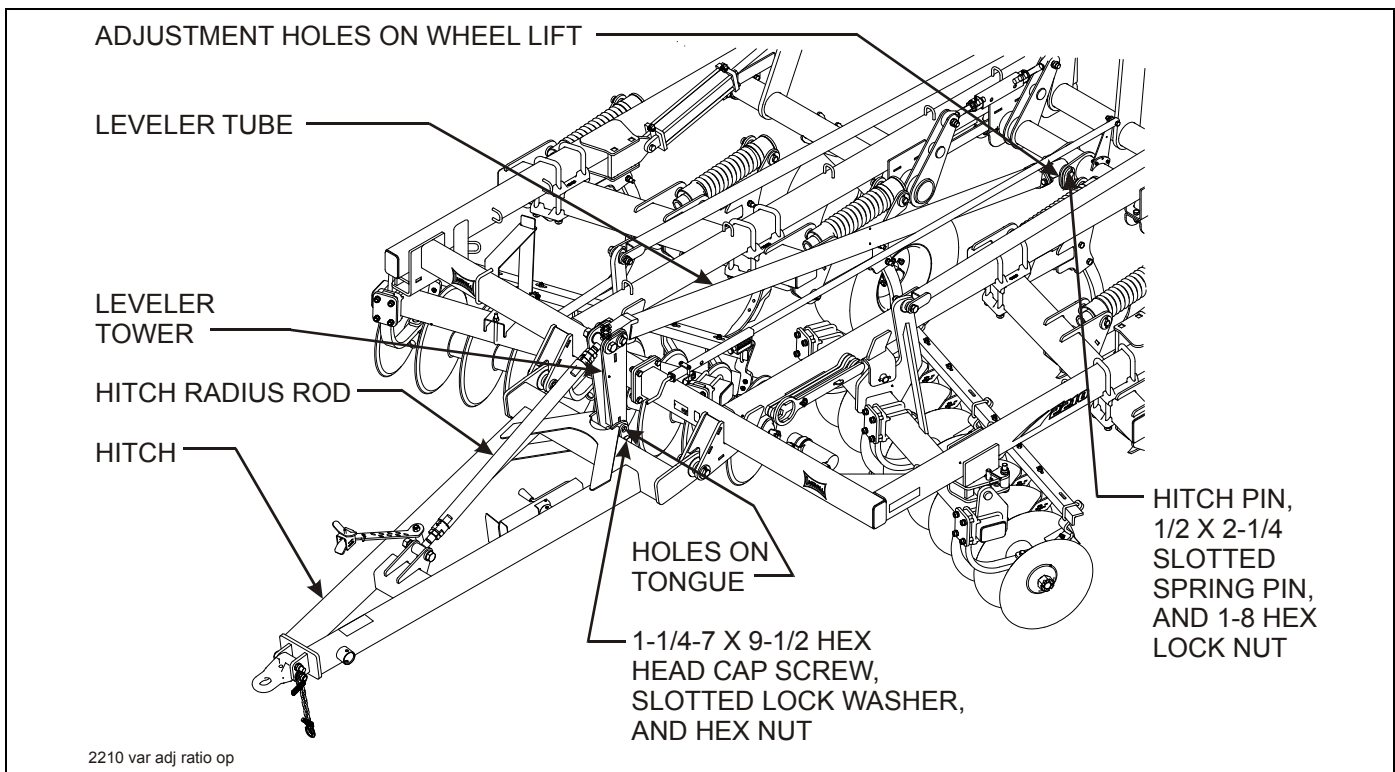

Figure 4-9: Variable Ratio Leveler Adjustment
3. Remove the 1-1/4-7 x 9-1/2 hex head cap screw, slotted lock washer, and hex nut through the leveler tower and hitch (**See Figure 4-9.**)